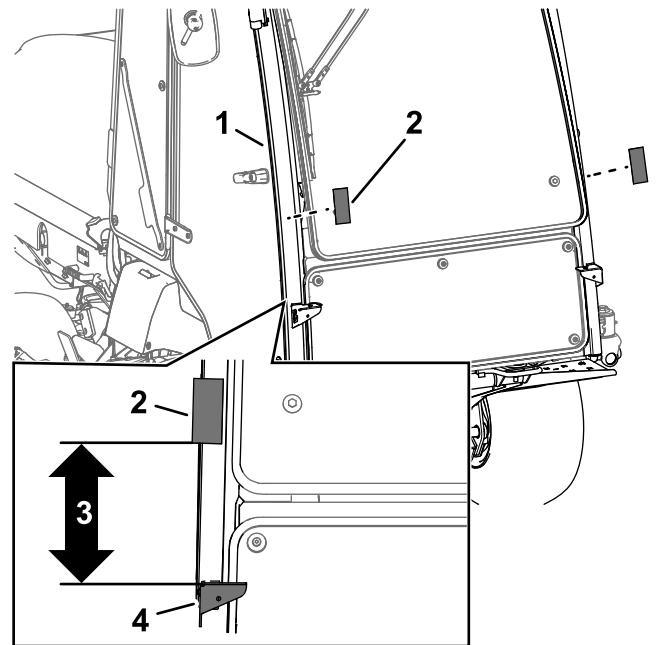

Figure 5
1. Clean the front cab pillar above the headlight bracket with alcohol, and allow it to dry (Figure 5).
3. Align the decal 23.8 cm (9-3/8 inches) above the headlight bracket, and adhere the decal to the cab pillar (Figure 5).